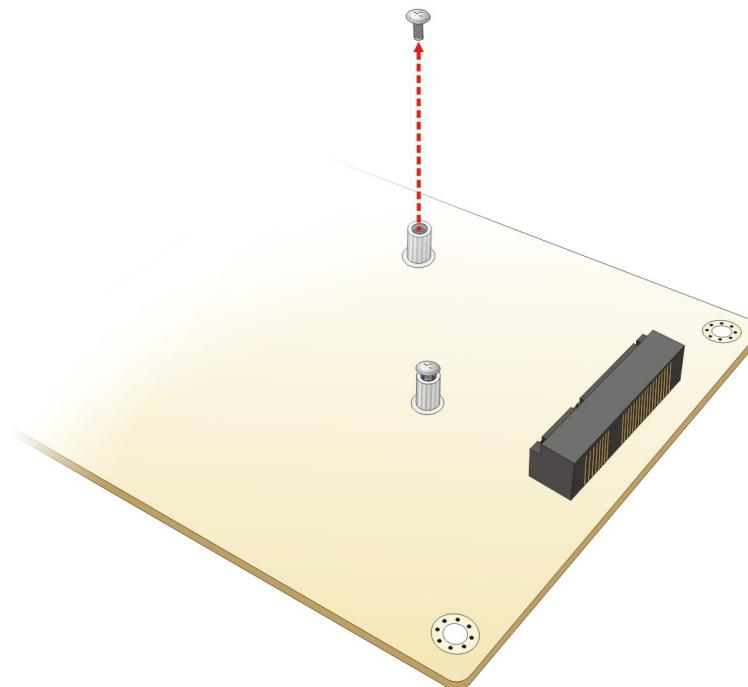

Figure 4-2: Removing the Retention Screw
Step 2: **Remove the retention screw.** Remove the retention screw as shown in **Figure 4-2**.